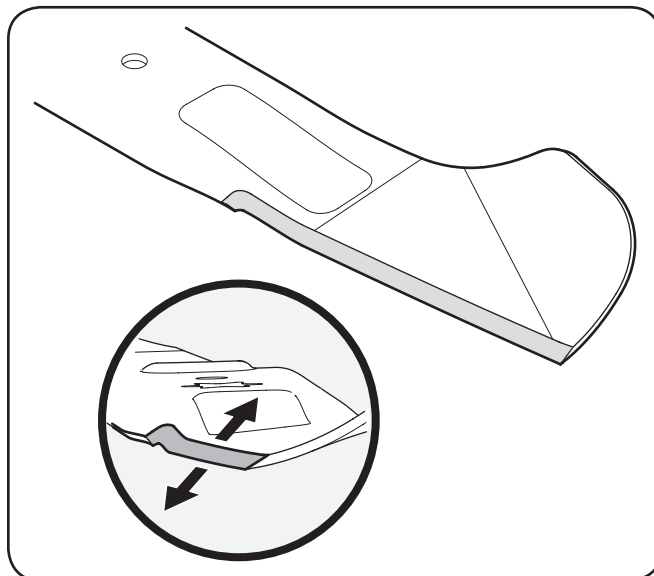

Figure 4-4
4. To properly sharpen the cutting blades, remove equal amounts of metal from both ends of the blades along the cutting edges, parallel to the trailing edge, at a 25°- to 30° angle. Always grind each cutting blade edge equally to maintain proper blade balance. See Fig. 4-4.